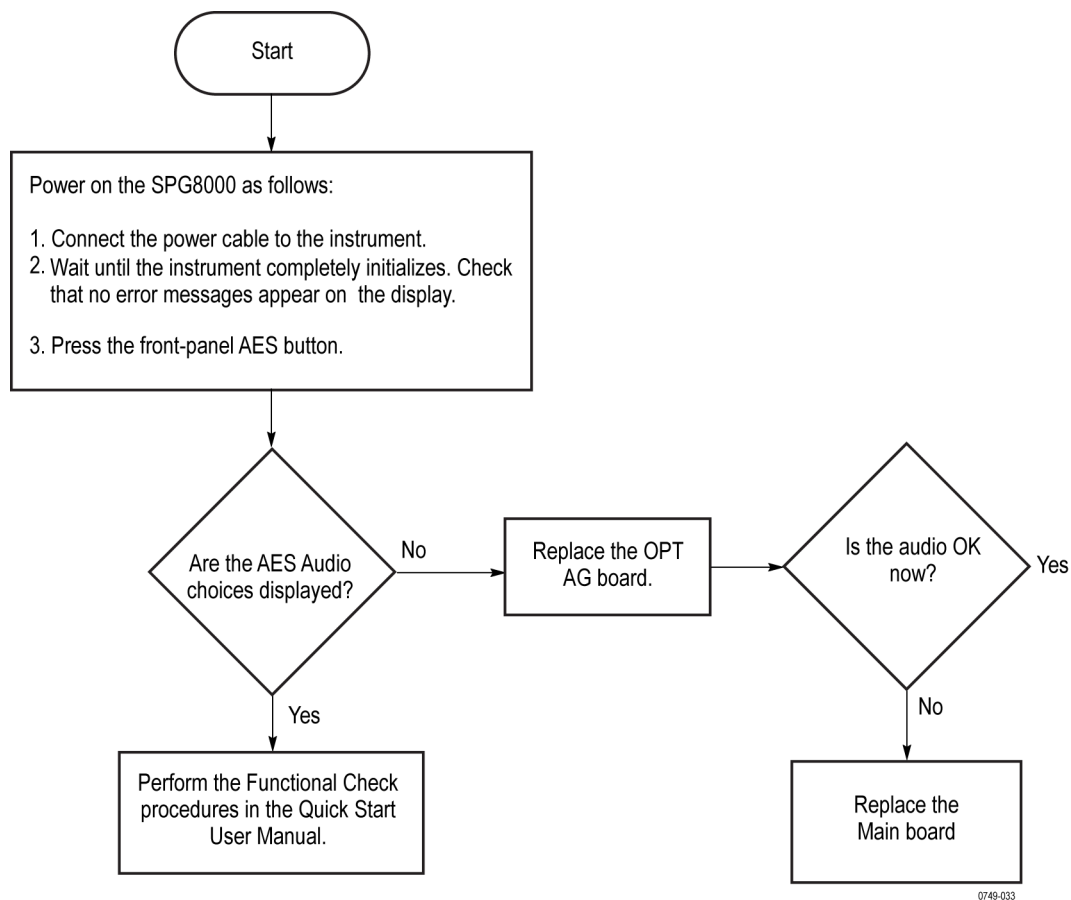

Figure 23: Option AG troubleshooting procedure
4. Use the troubleshooting diagram to troubleshoot Option AG. (See Figure 23.)
4. Use the Option BG troubleshooting diagram to troubleshoot the option. (See Figure 23.)